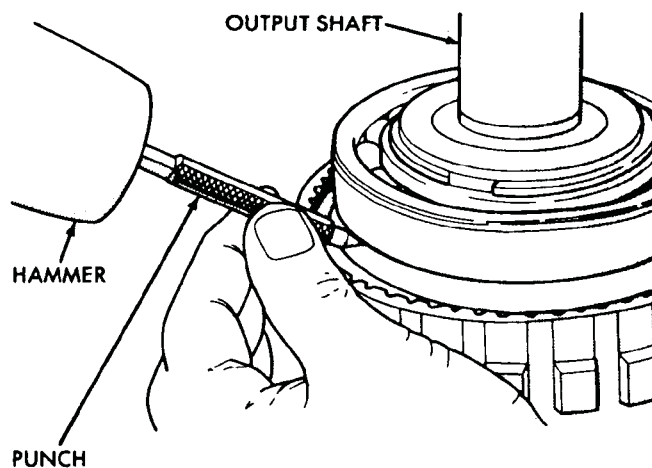

Fig. 32 Marking Annulus Gear And Output Shaft For Assembly Alignment
(22) Mark annulus gear and output shaft for assembly alignment reference (Fig. 32).